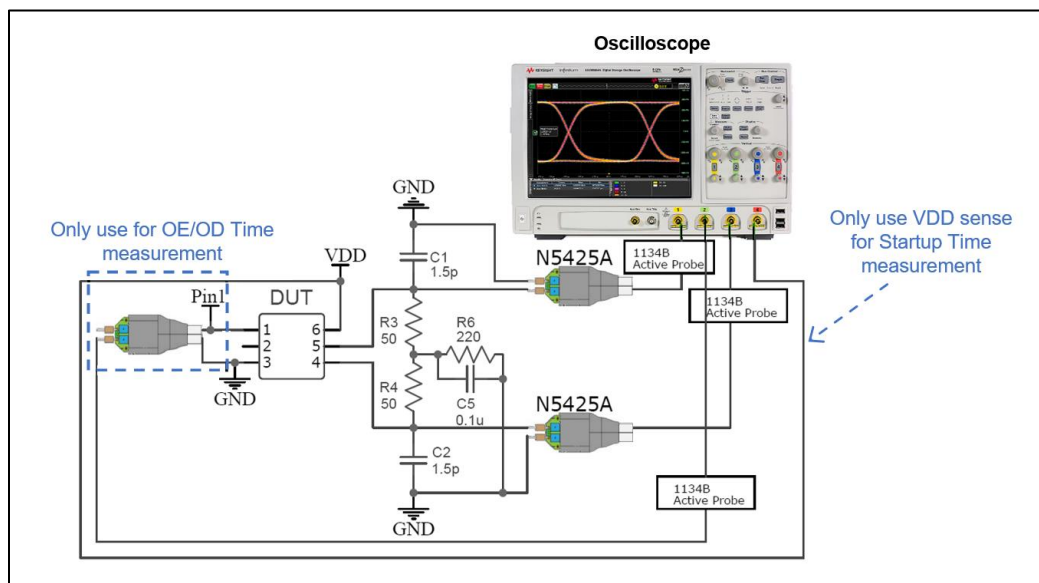

Figure 7. Test setup to measure FlexSwing Output Waveform Characteristics, Current Consumption^[16], Output Enable/Disable Time, and Startup Time
13. See Figure 7 for the test setup to measure LVPECL Current Consumption with Termination 1 or without Termination.